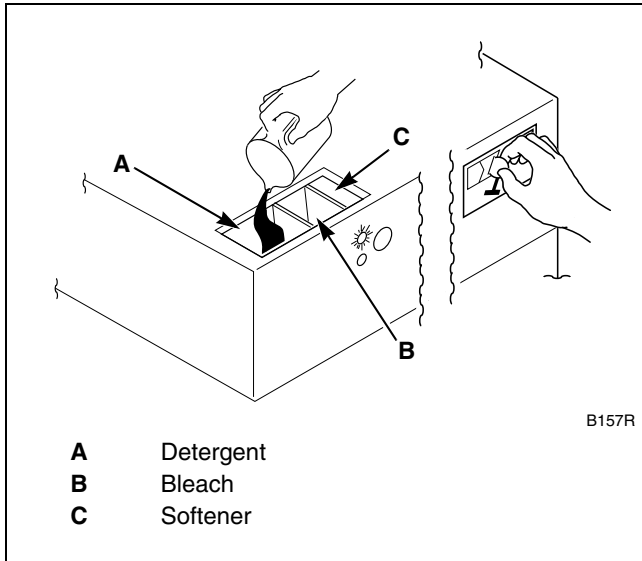

Figure 6
7. Add liquid and/or powder supplies to supply dispenser. Refer to *Figure 6*.
8. Add coins to machine. As each coin is added, the vend counts down to the amount remaining. Refer to *Figure 6*.